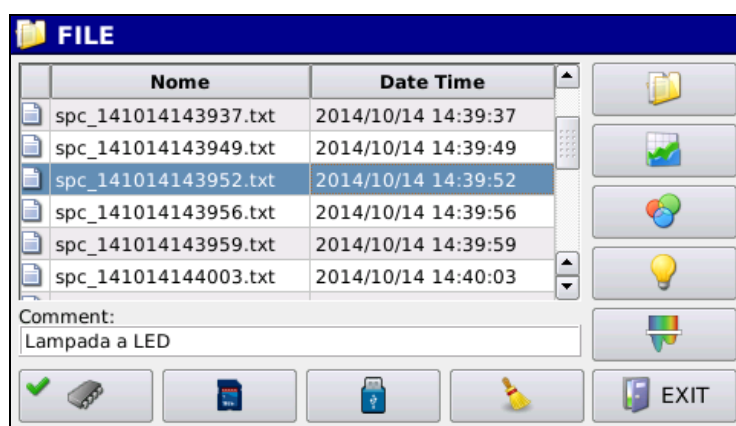
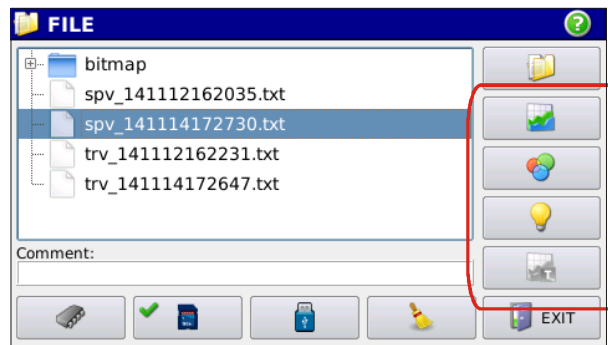
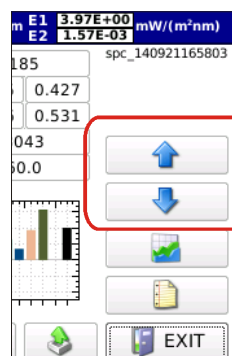

Fig. 4.11: display of the measurements stored in one of the available memories (internal memory, μ SDcard, USB device).
Fig. 4.12: Data contained into selected file can be displayed by using the highlighted keys.
Fig. 4.14 : Arrow keys can be used to display files stored in memory.
Pressing the button will open the fig. 4.11 window.
4.5.1 Select the desired file. The selected file will appear on BLUE background (fig. 4.11); at this stage, the file can be displayed using the buttons on the right of the screen (fig. 4.12).
The arrows highlighted in figure 4.14 allow next measurement to be displayed directly with no need to go back to the FILE menu (fig. 4.11).
Press to return to the FILE menu (Fig.4.11).
Press  return to the file handling page (fig. 4.11)